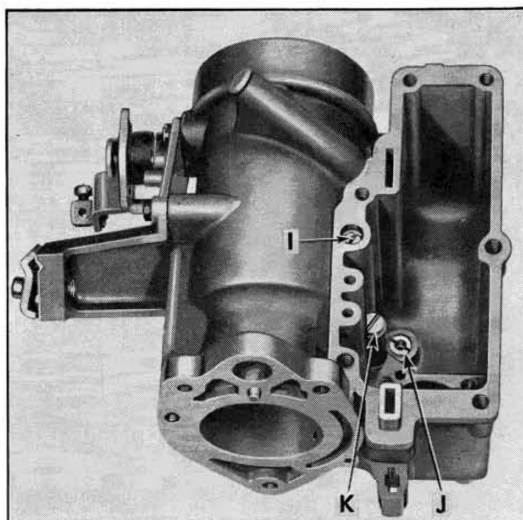

Fig. 5
11. Remove low speed jet "I" metering rod jet "J" and discharge check valve assembly "K" consisting of a cap, spring and ball (fig. 5). Do not remove the pump jet — it is not replaceable.